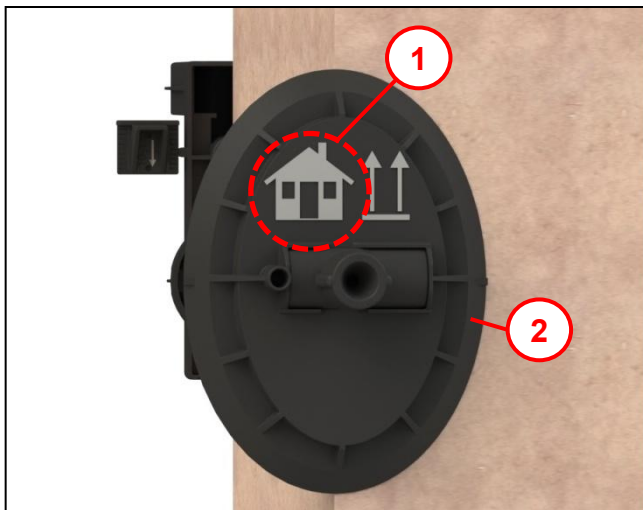

Fig. 20
- Place the foam pipe with outside flange (1) into the drill hole and insert as far as the beginning of the snap lug (Note Fig. 20).
Continue with Fig. 20